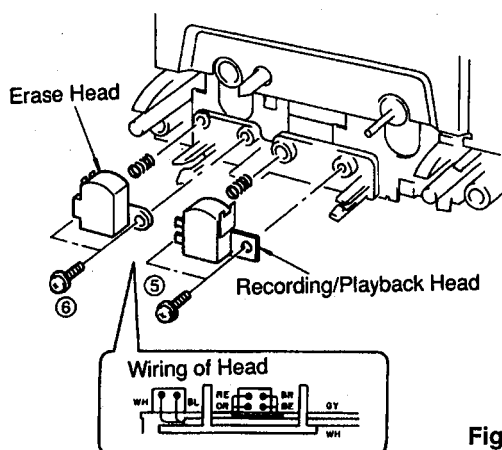

Fig. 6
- a. Remove 2 screws ( ⑤ ) in Fig. 6 and then remove the Recording/Playback Head.
- b. Remove 2 screws ( ⑥ ) in Fig. 6 and then remove the Erase Head.